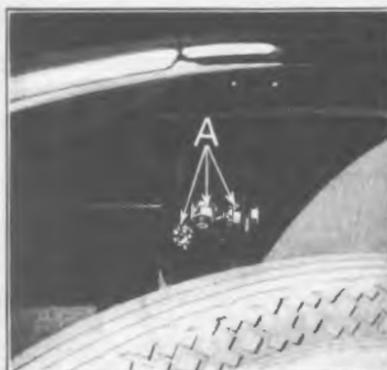
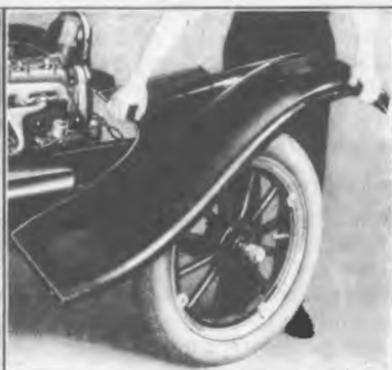

Fig. 535
Fig. 536
- 1139 Run off nuts on the ends of the three front fender to bracket bolts (see "A" Fig. 535) and withdraw bolts. Fenders can now be lifted off as shown in Fig. 536.
- 1140 To install the new type front fender, position it against frame and fender bracket, lining up the bolt holes in fender with holes in frame. The three front fender to bracket bolts are then inserted through bracket and fender. Castle nuts are run down on the ends of two of the bolts, but are not locked with cotter keys until all bolts and nuts are entered. The third bolt is locked in position with a lockwasher and hexagon nut. (See Fig. 535.) Do not draw nuts down tightly until all fender bolts have been entered.
- 1145 Draw all fender bolts and nuts down tightly, locking the two fender to bracket bolt nuts with cotter keys (see Fig. 535).